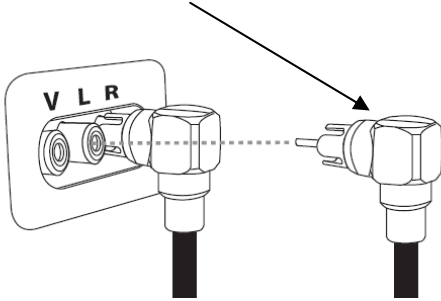

Figure 9
3. Connect the optional right angle Audio/Video jacks to one end of the RCA Male to Male Harness. Connect the right angle Audio/Video jacks to the factory VES A/V Input jacks. (See Figures 9 and 10 below for examples of the FLO TV A/V Output connections to the Factory A/V Input or Factory VES A/V Input)